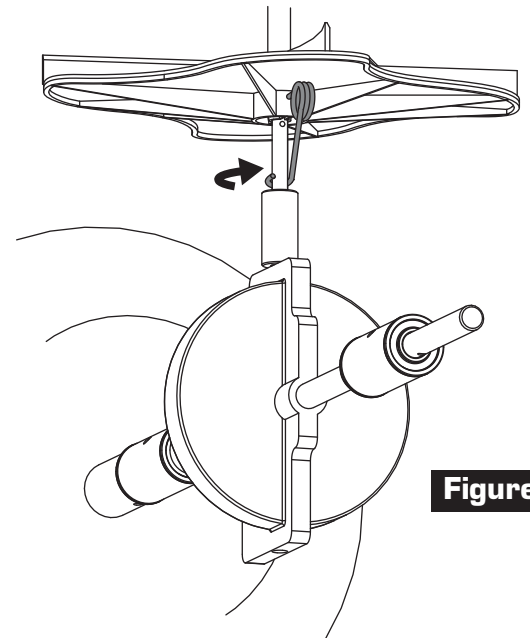

Figure 7
10. Slide coupler all the way down onto the felt washer on the lower spinner shaft, Figure 7. Insert spinner spring through the fan and **upper** hole on the spinner shaft. Wrap spring around shaft and clip into place as shown, Figure 7.